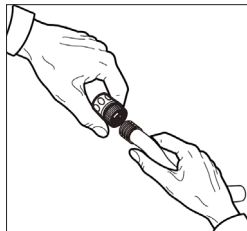

Fig.6
- Connect the garden hose adaptor (female coupler) to the water inlet of the pressure washer, then thread your garden hose (male end) into the garden hose adaptor (Fig.6 and 7).